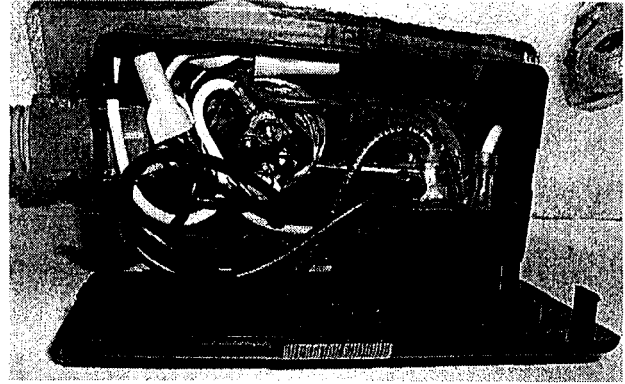

Fig. 5
13. After all wires have been re-connected insert them back in the electrical junction box on the back of the water heater. Assure that all wires and connectors are positioned away from the heating element terminals (Fig. 5).